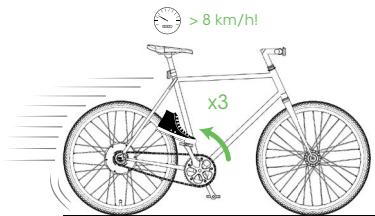

Figure 2: BIKE all in one activation procedure
2.1 BIKE all in one activation procedure (see Figure 2)